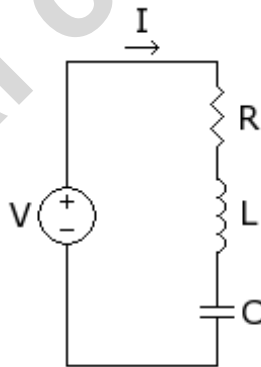

Figure 3: Series Tank Circuit
- a series tank circuit as shown in figure 3 on page 7.
Figure 3 shows a series tank circuit.